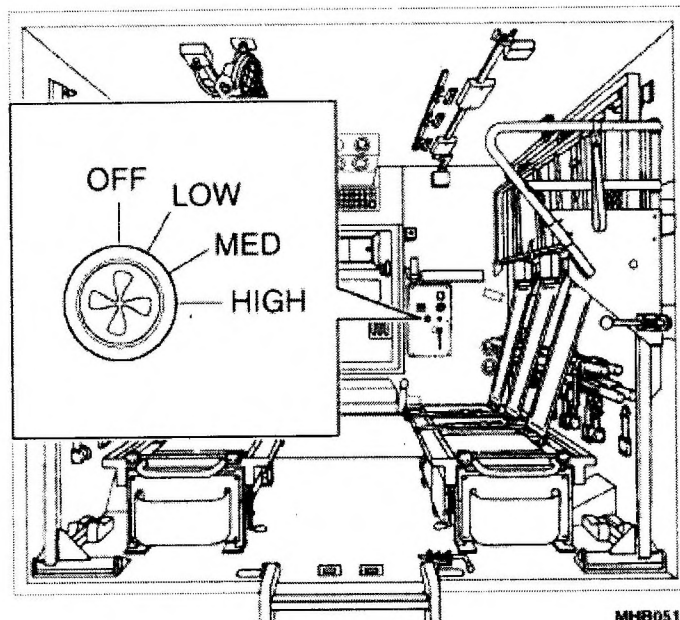

Fig 2 Blower motor fan speed switch
- 5 The blower motor fan speed control switch is a rotary switch (Fig 2) with 4 settings as follows: